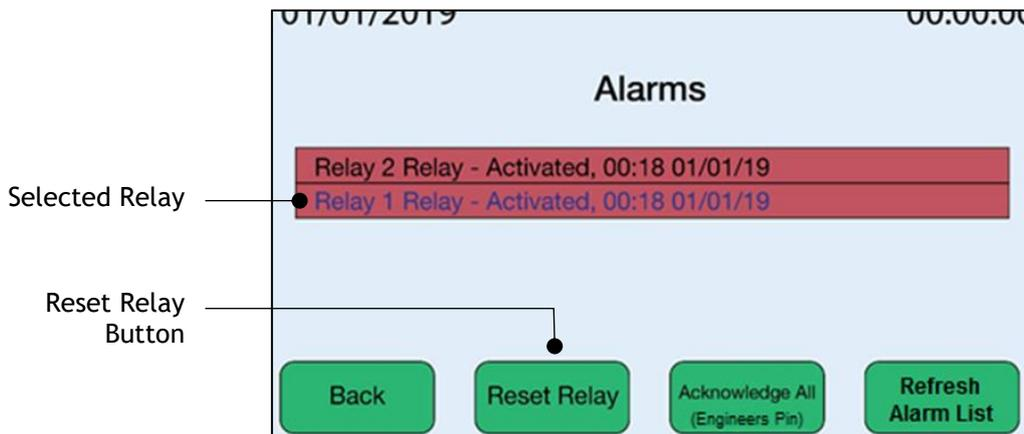

Figure 39: EMS Alarms Screen with Selected Relay and Reset Relay Button
2. Tap a **relay** listed with a red background to reset. The text colour will change from black to blue. A green 'Rest Relay' button will also appear (bottom centre-left; **Figure 39**). A numeric keypad for the user PIN will display.